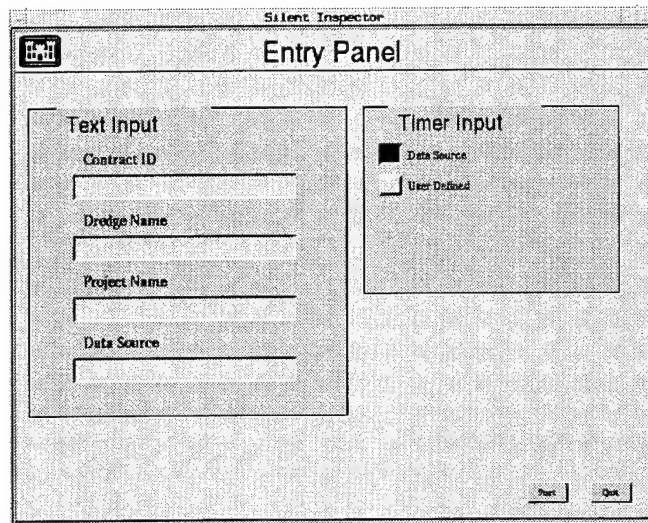

Figure 6. DSS **Entry Panel** screen
The **DSS Entry Panel** screen (Figure 6) will appear. The DSS within the Training and Reference SI can accept data either in real-time from a working hopper dredge, or from previously recorded ASCII data files. As each DSS is generally created to accept data from specific hopper dredges, the recorded data must match the data content and format for the specific dredge for which the DSS was designed.
- Click on the **Data Source** button within the **Timer Input** section of the screen (see Figure 6).